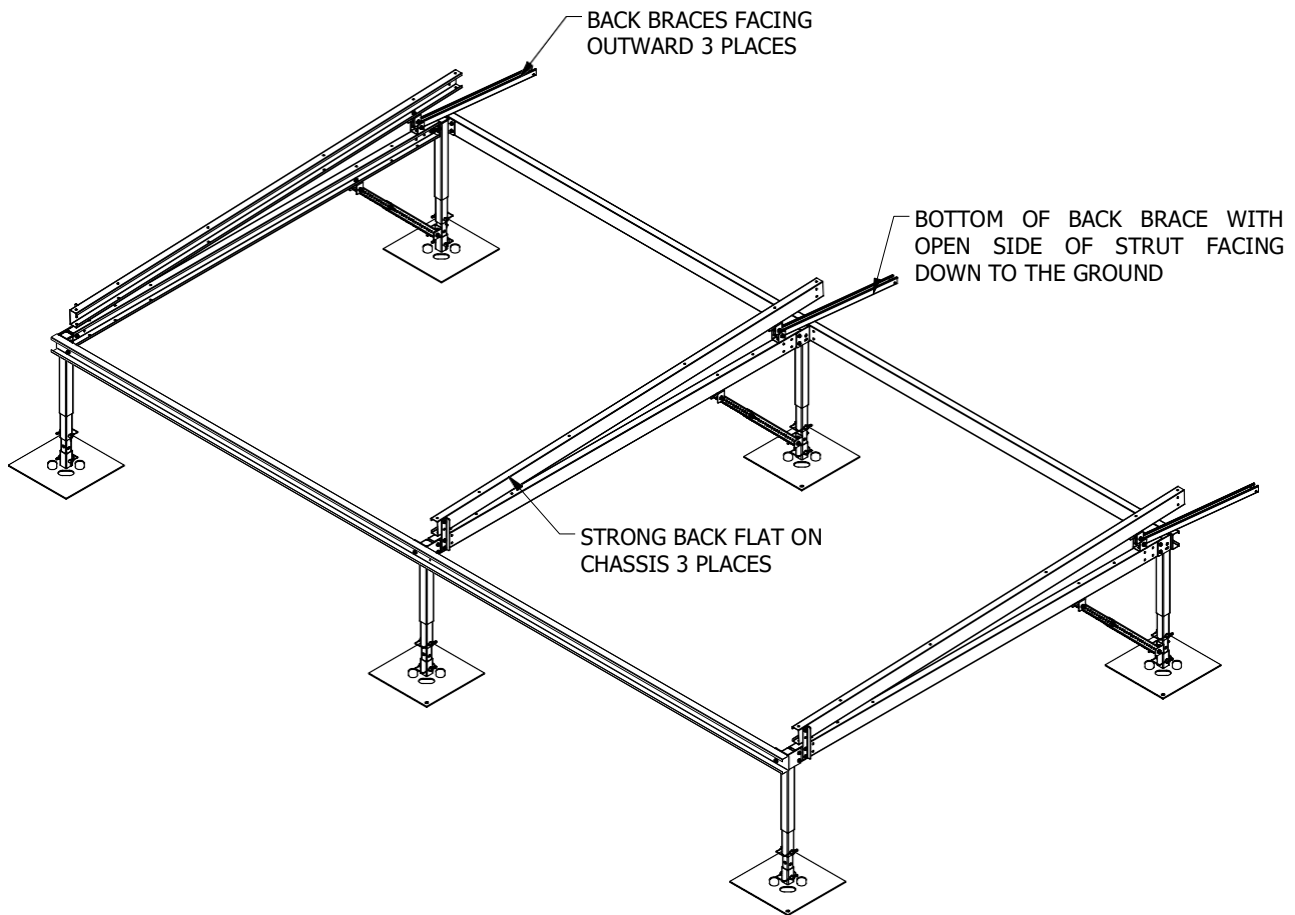

Figure 14: Alternate Back Brace Installation prior to installing Strut Rails.
9. The installer can install the back brace flat on the chassis pointing outward toward the rear of the platform prior to installing the rails which will allow for the rails to be installed flat on the chassis for easier fastening. See Figure 14 on next page.